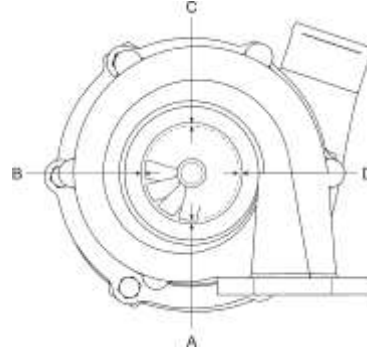

Figure 3
NOTICE: The clearance at the turbine blade tip, measured as shown in Figure 3, identifies the general condition of the turbocharger.
- G. Use a feeler gage to measure the space between the impeller blades and the turbine housing at intervals of 90° as shown in Figure 3.